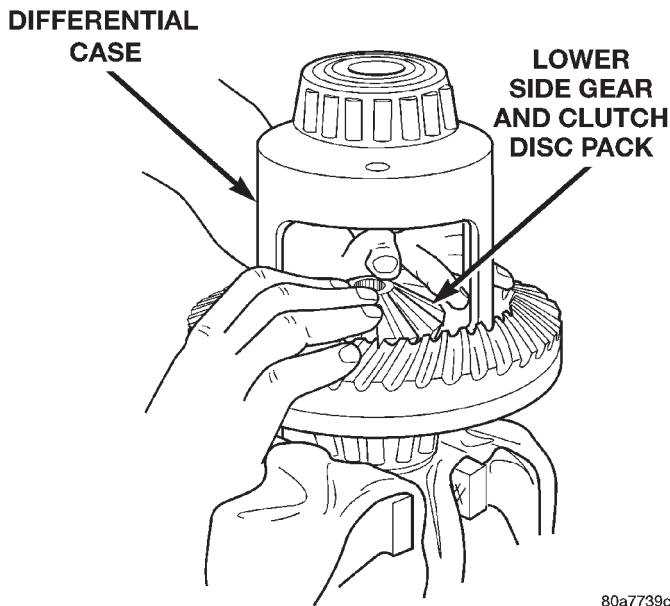

Fig. 49 Clutch Discs & Lower Side Gear Installation
(2) Position assembled clutch disc packs on the side gear hubs.
(3) Install clutch pack and side gear in the ring gear side of the differential case (Fig. 49). **Be sure clutch pack retaining clips remain in position and are seated in the case pockets.**